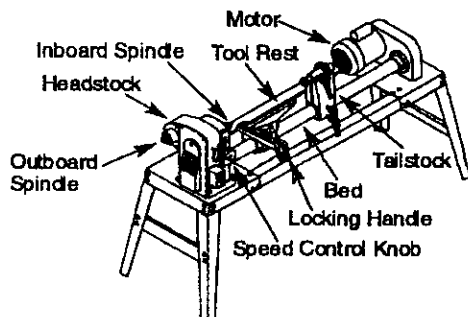

Figure 3 - Parts of the Lathe
- When the wood lathe is ready for use, it should appear as it does in Figure 3.